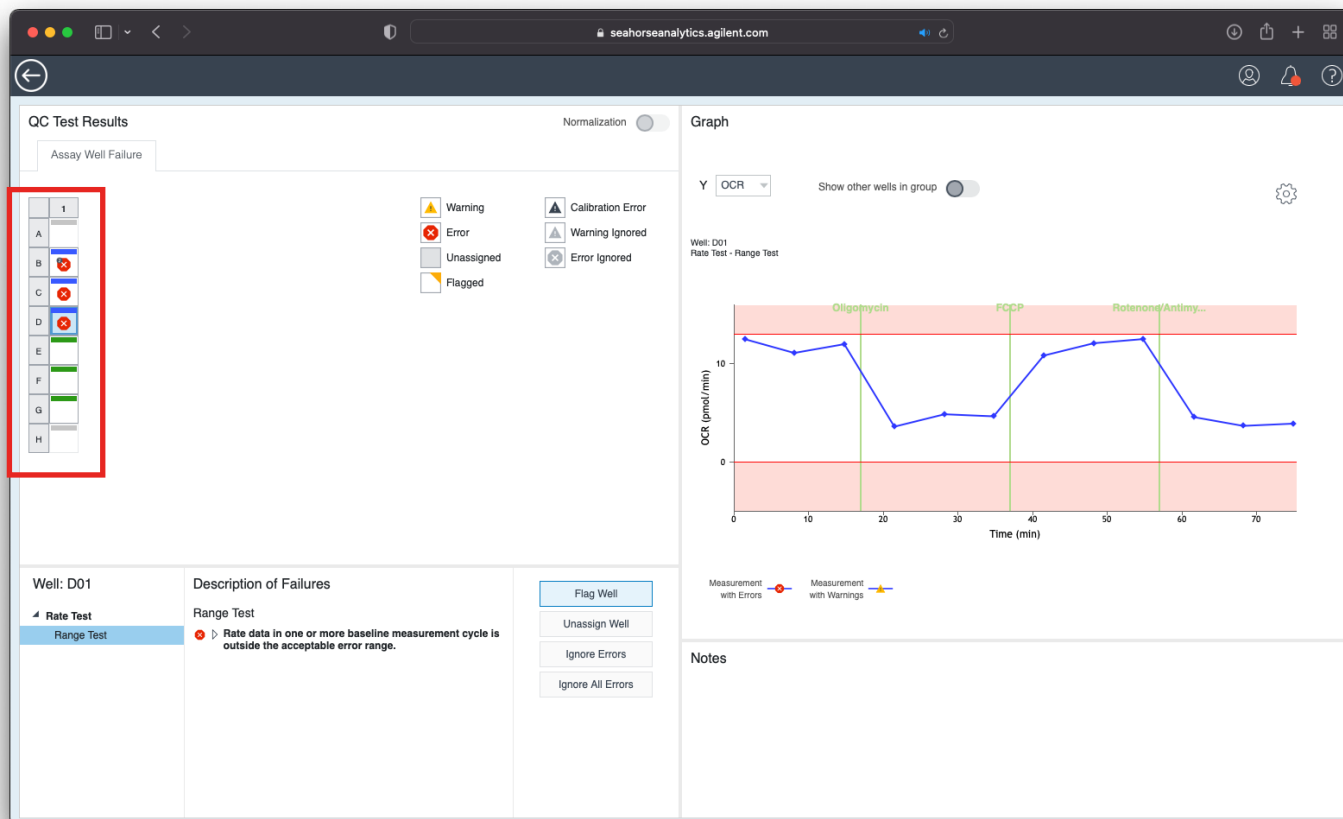

Figure 14. The Data Quality analysis view, showing error icons on the plate map.
5. Open the Data Quality analysis view by clicking the triangle. When the view appears, if your result file contains warnings or errors, you will see icons on the plate map wells indicating possible issues for your review (Figure 14).